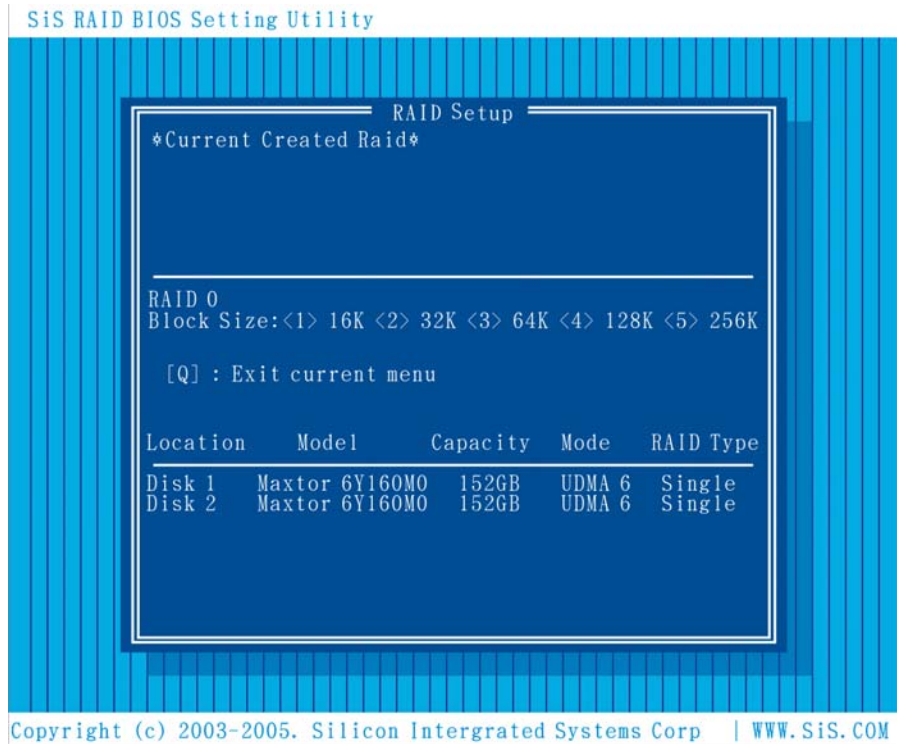

Figure 8-8: Select RAID 0 Stripe Sizes
Step 4: If manual configuration is selected, the screen in **Figure 8-8** appears.